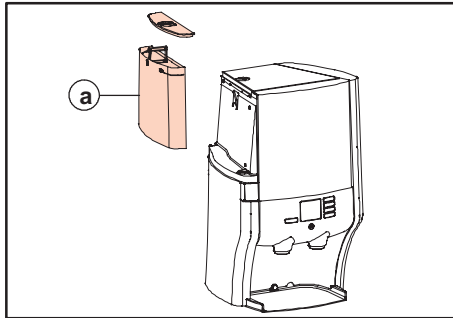

Fig. 21 Water tank
4. Remove and empty the water tank (fig. 21 a).